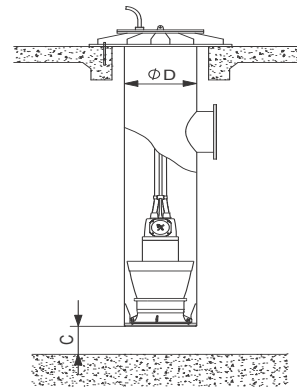
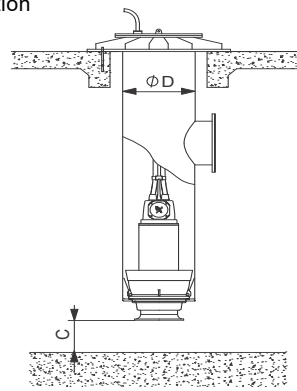

Fig. 11 KPL: installation dimensions
Fig. 12 KWM: installation dimensions
The following table indicates the column pipe diameter ($\varnothing D$) and the minimum free space allowed (C) under the pump. For further information on installation, see fig. 11 and fig. 12.